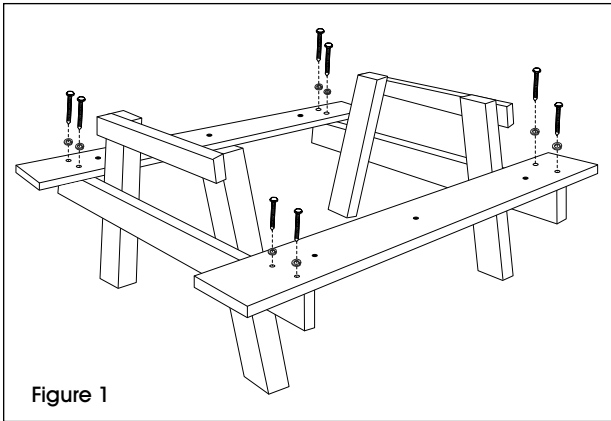

Figure 1
4. Loosely attach seats with metal brace to A-Frame base with the 3 1/2" lag screws and washers using the power drill and 7/16" socket bit (will tighten later in step 9). (See Figure 1)